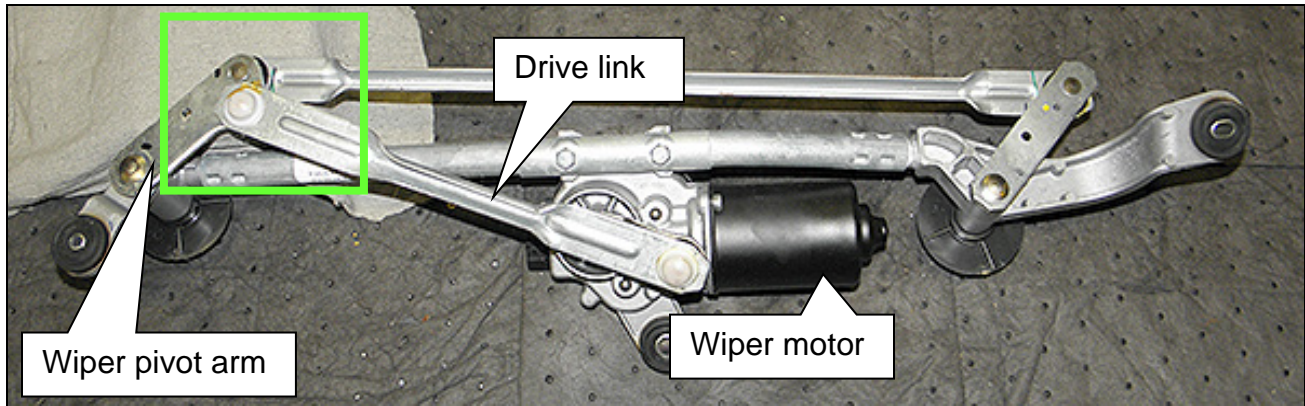
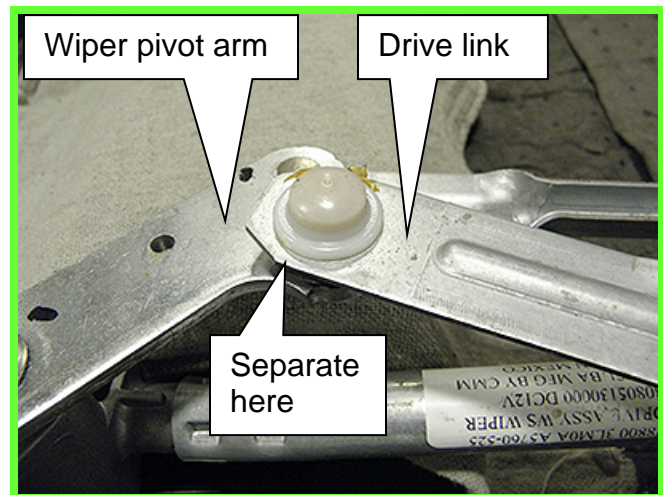

Figure 1
Figure 2
1. Remove the wiper drive assembly (Figure 1) from the vehicle and place on a clean work surface.
2. Separate the drive link from the wiper pivot arm (Figure 1 and Figure 2).